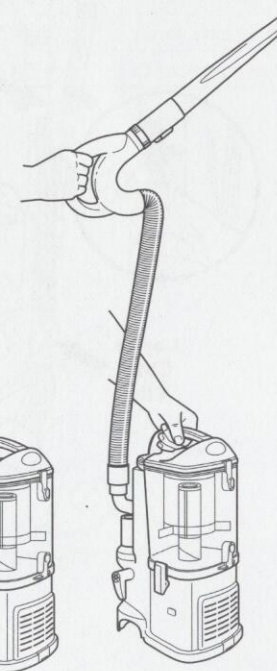

Fig. 14
- 2 To clean with the handle, press the Handle Release button (a) and lift the handle out of the wand. To clean with longer reach, press the Wand Release button and lift off the wand. (Fig. 14)